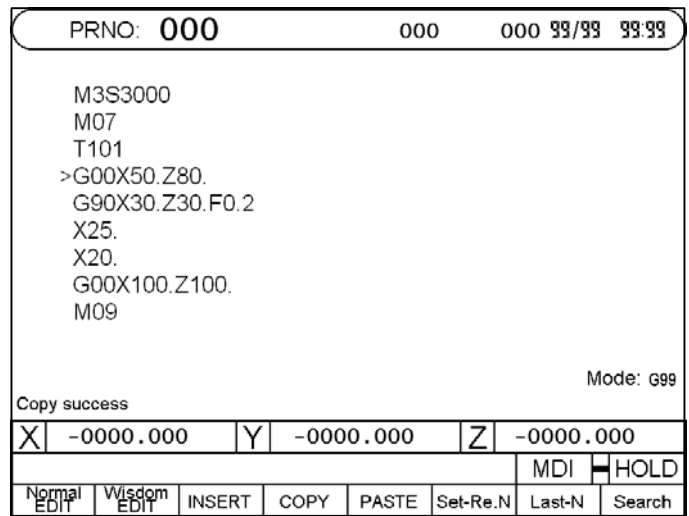

Fig.2-13
4. Press the “Hint” and then “Copy” key till the screen hint “Copy Done” appears (as per Fig. 2-13). To reselect the program content to be copied, repeat Step a~d.